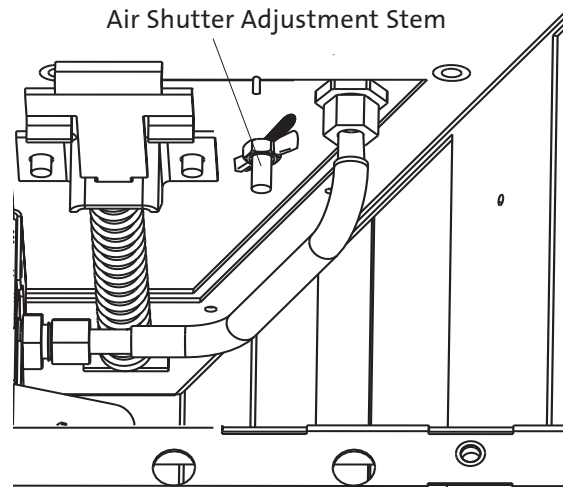

Figure 49. Air Shutter adjustment location.
The air shutter adjustment can also help achieve the desired flame appearance. Generally, flame appearance is a matter of individual preference, however a warm yellowish flame is most common. See fig. 49.
1. Open the Lower Grill panel and locate the Air Shutter adjustment stem extending down from the right side of the firebox floor. See figs. 49.